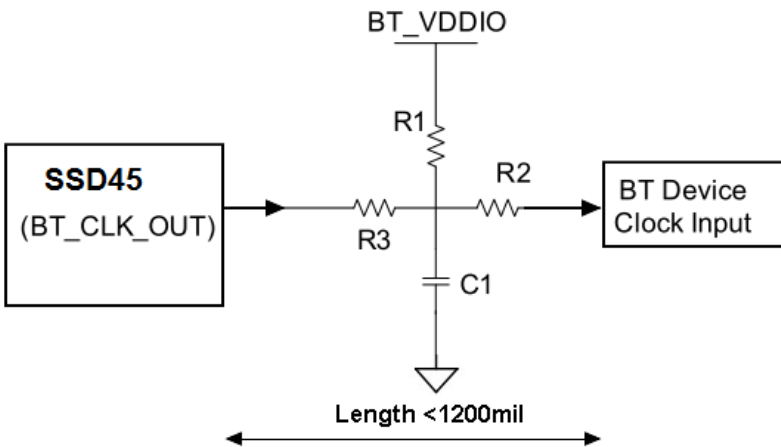

Figure 4: Filtering circuit when using clock sharing
A filter is required for SSD45N clock output to reduce spurs in the Bluetooth device RF output and to improve the modulation index (Figure 4).
**Note:** We recommend that the length between the SSD45N and the BT device is smaller than 1200 mil in the clock trace layout. (Figure 4)
**Note:** Bluetooth clock sharing filtering circuit involves three resistors and one capacitor. This could be reduced to one resistor and one capacitor with future releases but it depends on the test result. (Figure 4)